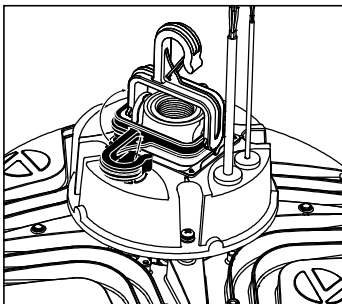

Figure 1
1.1 Standard Mounting type (Hook Suspended): Lift Integrated Mounting Hook to vertical position. (See Figure 1).